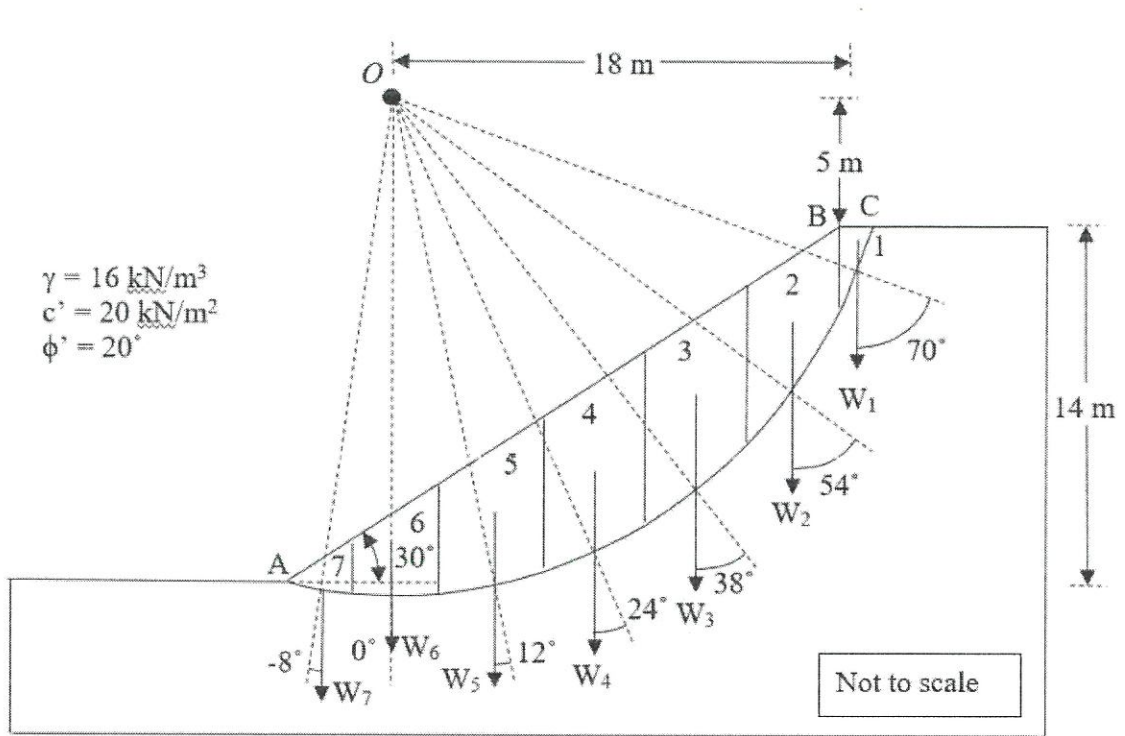

Figure Q3(b): Arc of a circle
- Q3** (a) A slope as shown in **Figure Q3(a)** and data for each slice is tabulated in **Table Q3(a)**. Based on **Appendix A**, use slices method to prove that the factor of safety of the slope is greater than the design limit. Investigate what could be happen if the factor of safety is less than design limit. Your answer should be based on assumptions of Slope Stability Analysis.
- (b) A slope as shown in **Figure Q3(b)** is an arc of a circle representing the trial failure surface. With the true scale, illustrate the diagram and analyze using the ordinary method of slices to prove that the factor of safety against sliding for trial slip surface AC is a slope stable. Support your answer with relevant scale.